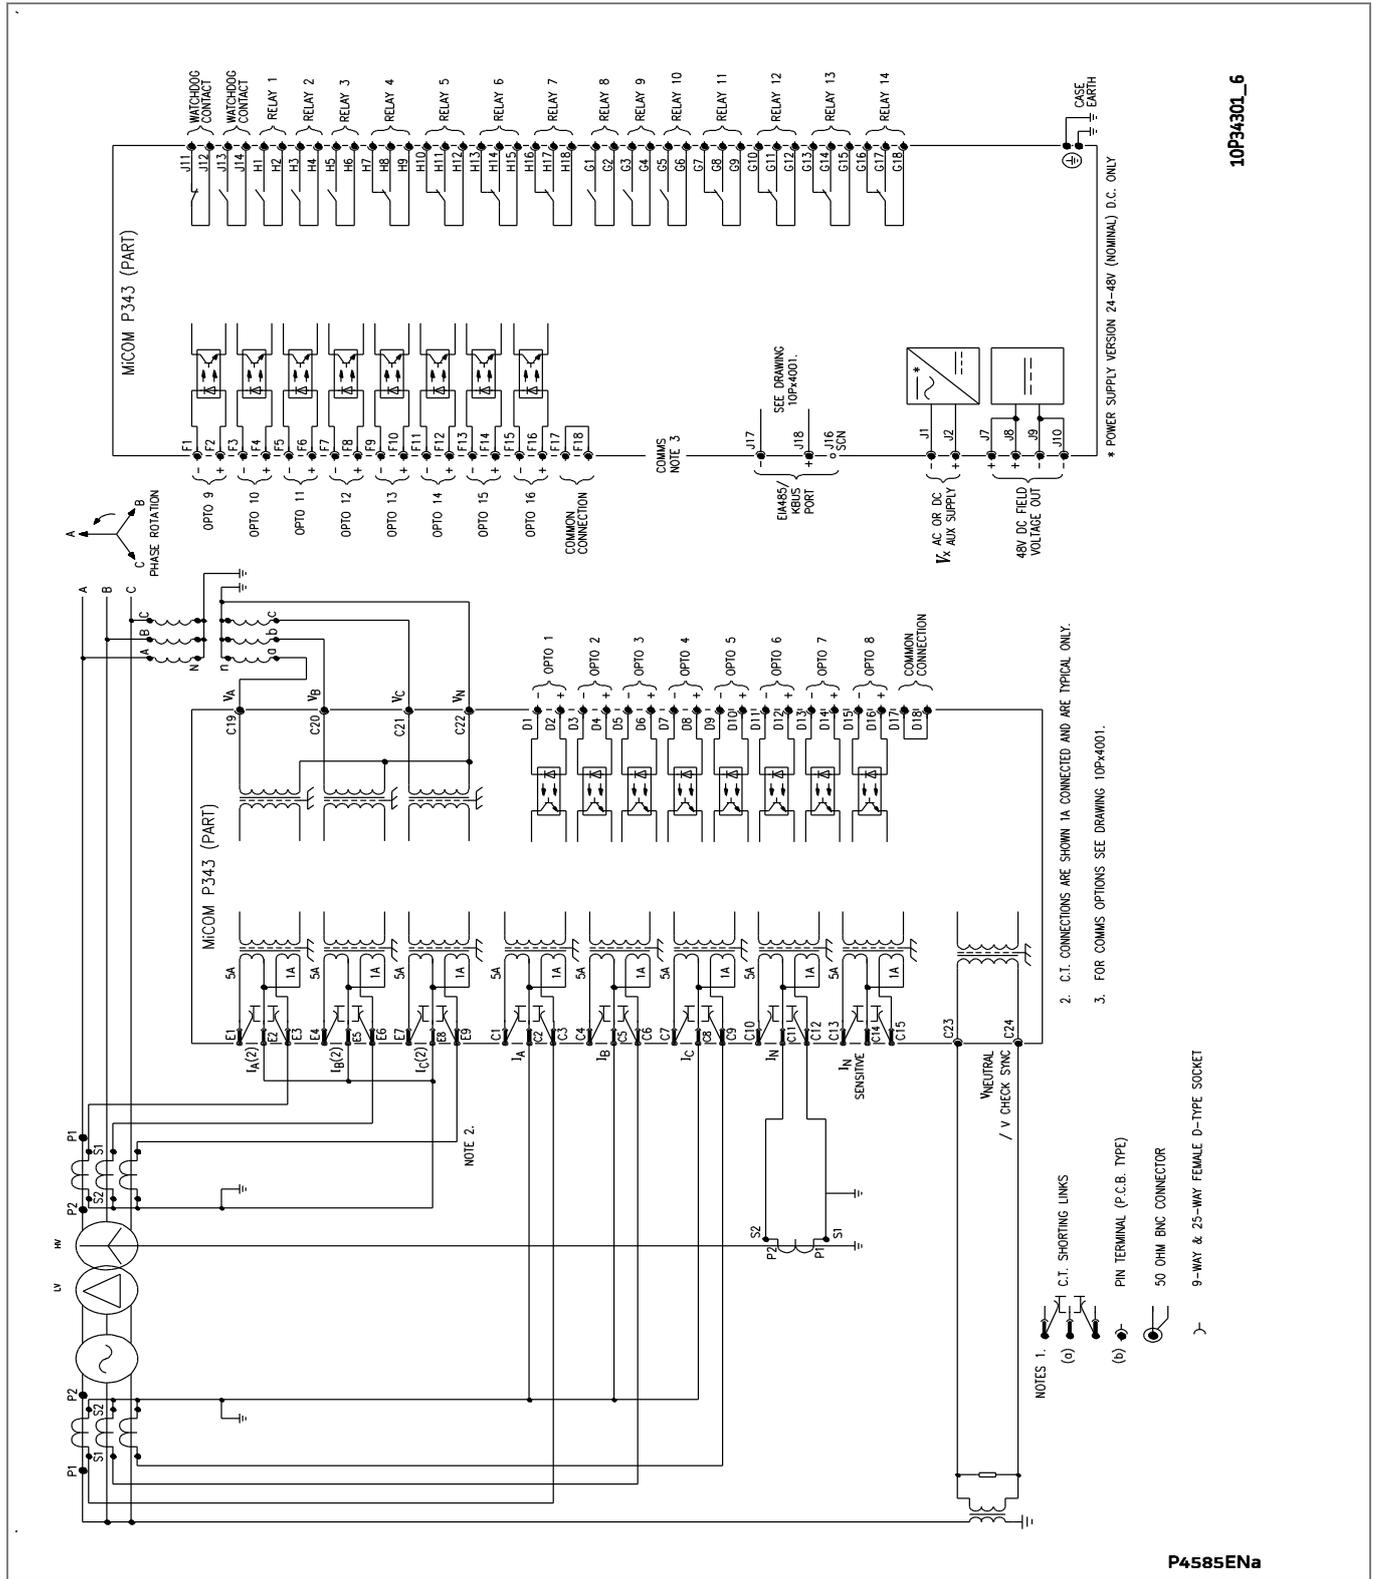

Figure 26 - P343 (60TE) for biased generator-transformer differential (16 I/P & 14 O/P)
- Figure 26 - P343 (60TE) for biased generator-transformer differential (16 I/P & 14 O/P)